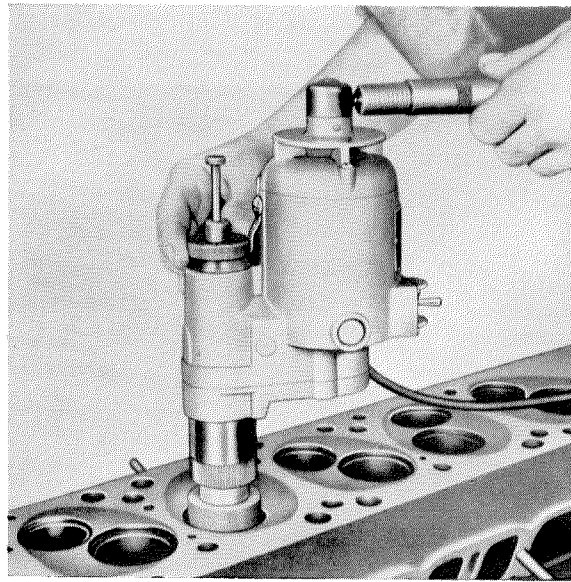

Figure 01-8/5
1. If the valve seat is insufficiently backed-off or not at all, the valve seat must be backed off. The relieving "b" should at least be 0.1 mm or should be done at an angle of 120 deg (see Figures 01-8/1 and 01-8/2).
c) Machining of valve seat with an eccentric valve seat grinder (see Figure 01-8/5).